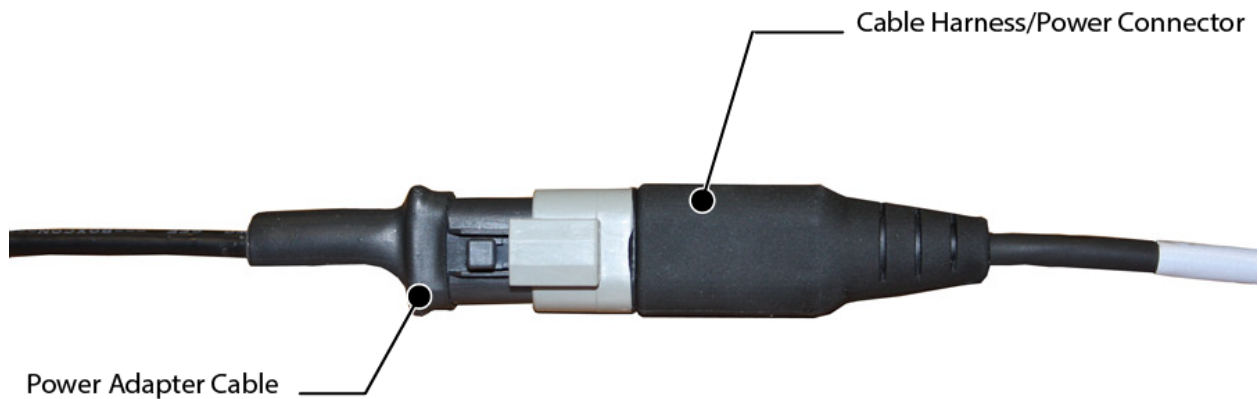

Figure 11: Power Adapter Cable to the Power Connector
2. Connect the adapter cable to the power connector of the cable harness, as shown in Figure 11.